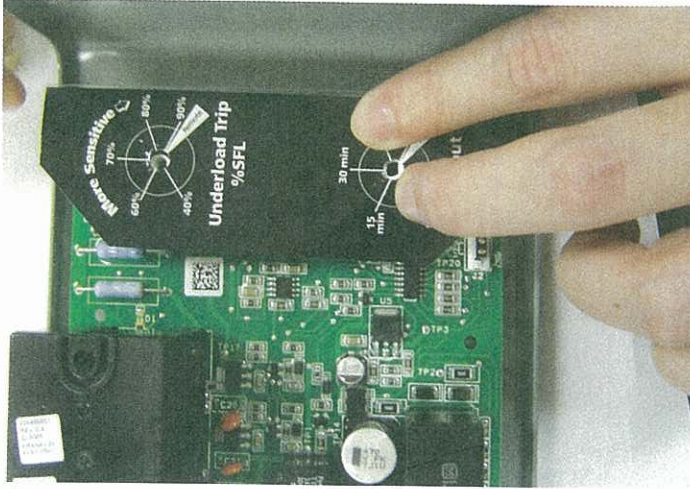

Figure 18
13. Fold adjustment label over adjustment pots and insert control knobs. Make sure adjustment knobs are set to the original setting (Figures 18 & 19).